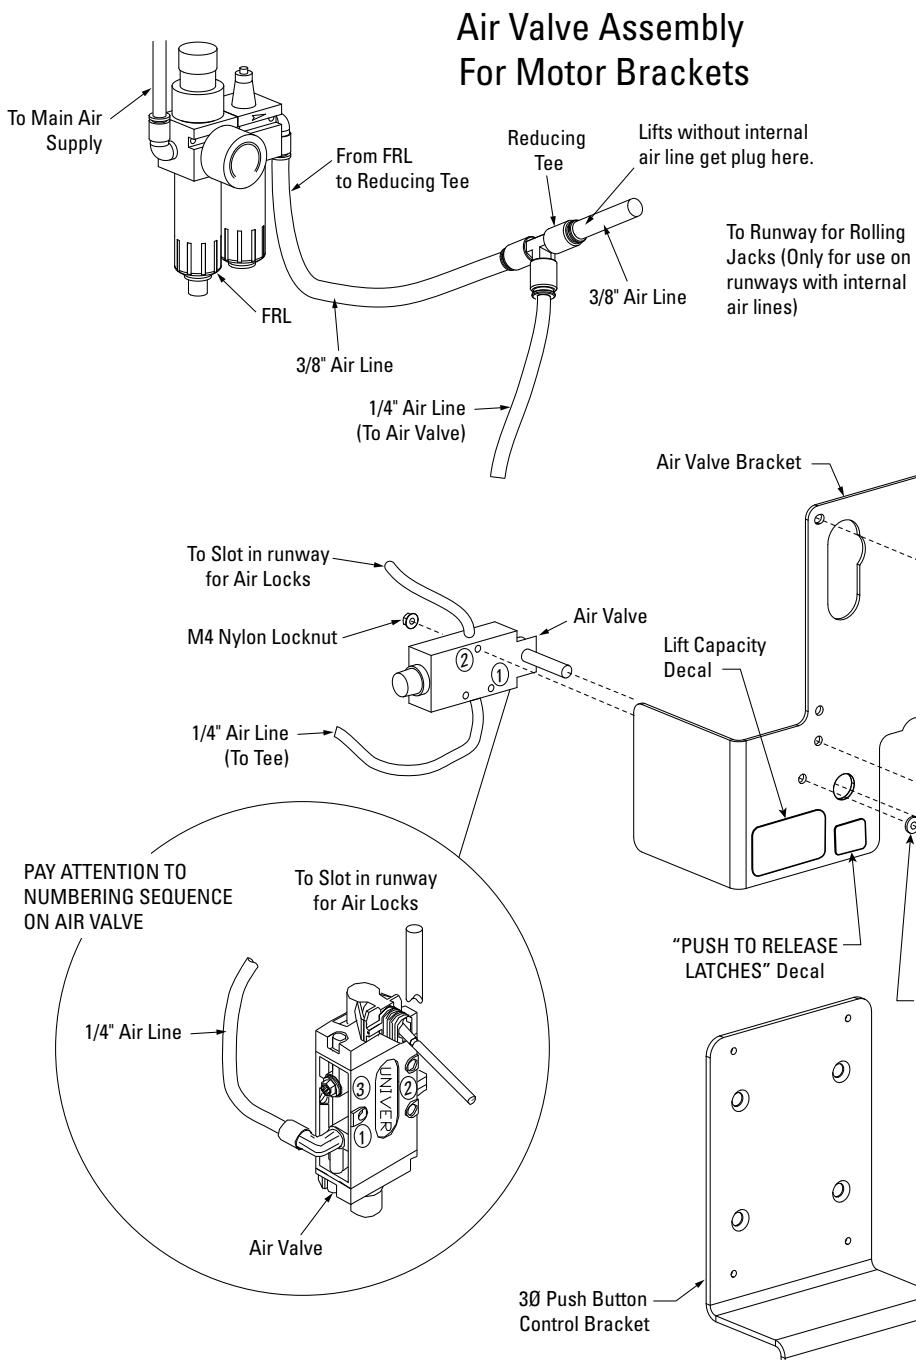

Fig. 22
- Run hydraulic hose from runway through slot in side of runway to elbow, Fig. 22. DO NOT use Teflon tape on hydraulic hose connections. Clean elbow and hose. Inspect all threads for damage and hose ends to be sure they are crimped. Attach hose to elbow using Flared Fittings Tightening Procedure.
- B. Run 3/8" air line from existing facility main air supply to the FRL. Run 3/8" air line from FRL to reducing tee, Fig. 22.
- C. Connect air valve to Reducing Tee, Fig. 22.
- D. Attach air valve to air bracket (or 3Ø Push Button Control Bracket when used), see Fig. 22.
Remove motor warnings decal from motor cover. Remove motor cover screws. Place air valve bracket on top of motor cover so that the raise switch protrudes through the hole in the air valve bracket. Mount air valve bracket and motor cover with the existing single phase (4) M5 x 15 PHMS motor cover screws or supplied M5 x 50 PHMS for three phase, Fig. 22.
- F. Attach enclosed NP280 decal ("PUSH TO RELEASE LATCHES") and NP864 (LIFT CAPACITY) below button on bracket, Fig. 22. Run 1/4" air line from air valve to the slot in the fixed runway. Cut airline and attach a Tee, Fig. 25, 22.**
- G. Run 1/4" air line from the Tee in the front yoke through air output on the air valve, Fig. 22, and Fig. 25.**
- H. If lift has internal air, remove plug in reducing tee and connect the 3/8" line coiled inside of runway, Fig. 22.**